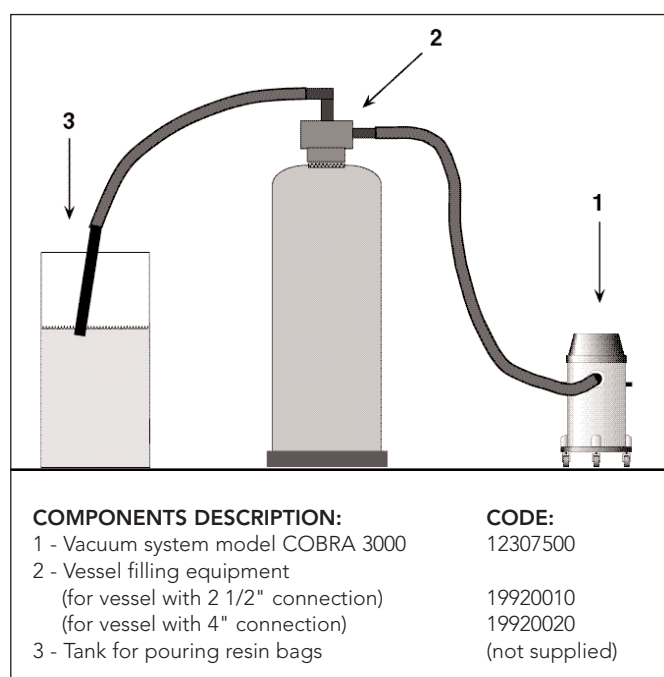

Fig. 2.9 - Vessel filling
- Put the filling equipment on the vessel (component 2 - Fig. 2.9).